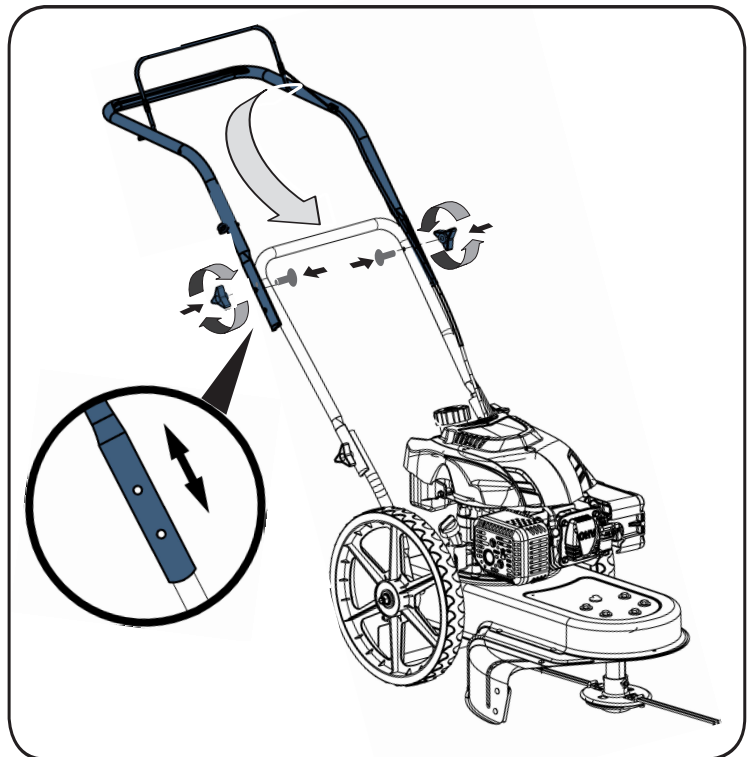

Figure 3-2
2. Find the upper handle and move the upper handle into one of two positions by pivoting and fasten the middle handle. See Figure 3-2.